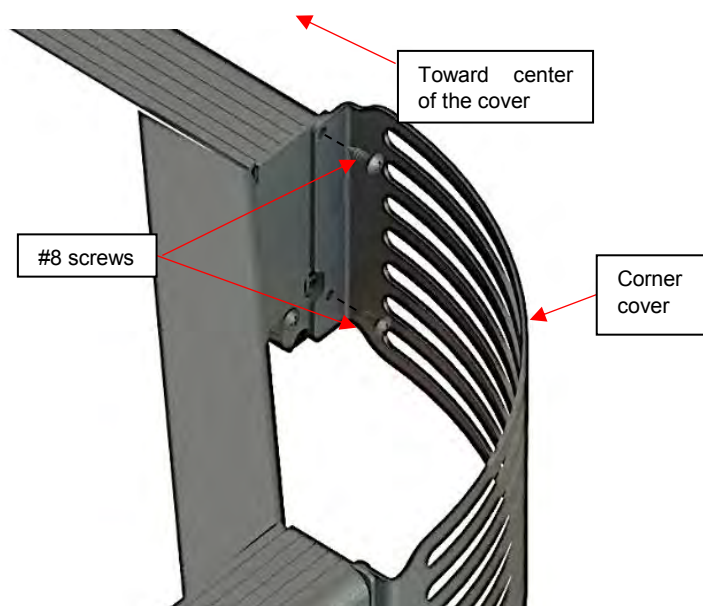

Figure 77
36) Orient the corner cover piece and screw it in completely with the last two screws on the side toward the center of the cover. Use the Robertson sheet metal #8 x 3/4 in. screws. (Figure 77)